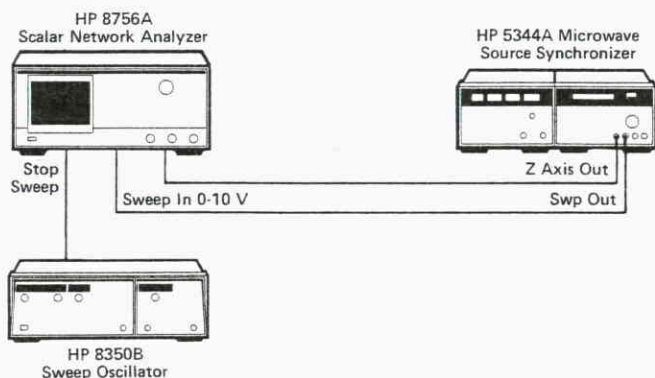

Figure 7. Alternate routing of display signals for narrowband sweeps.
- A: Yes, in some modes. Only Lock and Roll requires all four. Narrowband sweeps only require connections from the HP 5344S to the HP 8756A, and the connections from the HP 8350B to the HP 5344S can be removed (see figure 7).